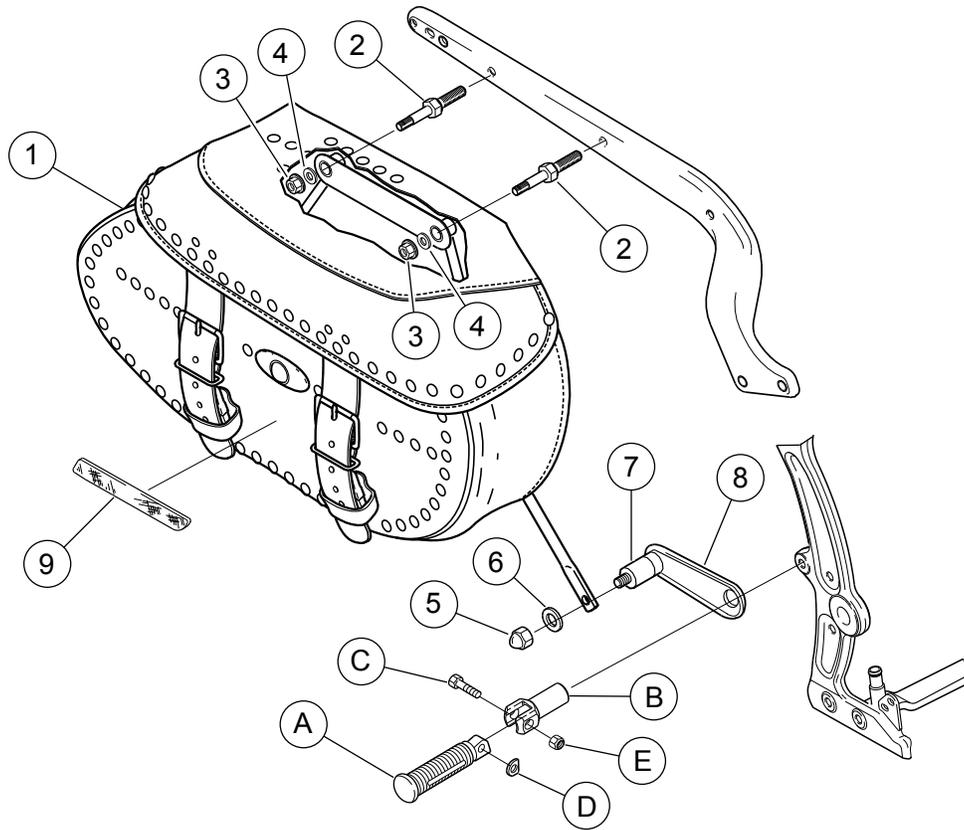

Figure 5. Service Parts: Saddlebag Mount Kit
See Figure 5 and Table 1.
- See Figure 5. Install saddlebag (1) on mounting studs (2) with flange locking nuts (3) and washers (4). Tighten flange nuts to 120-144 **in-lbs** (13.6-16.3 Nm).
- Install acorn nut (5) and washer (6) on rubber mount isolator (7) and saddlebag mounting bracket (8). Tighten acorn nut to 120-144 **in-lbs** (13.6-16.3 Nm).
- Install passenger footpeg (A) on footpeg support (B) using hex bolt (C), spring washer (D), and locknut (E). Tighten locknut to 120-192 **in-lbs** (13.6-21.7 Nm).